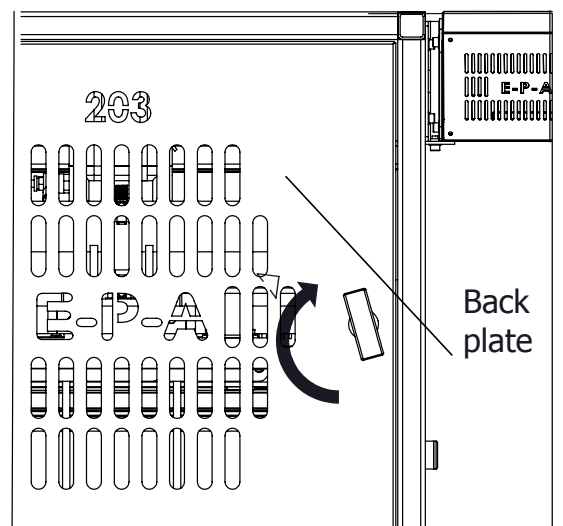

Figure.17
- d) Ensure that back plate of the machine is close. (Figure.17)
b) Ensure that back plate of the machine is close. (Figure.17)